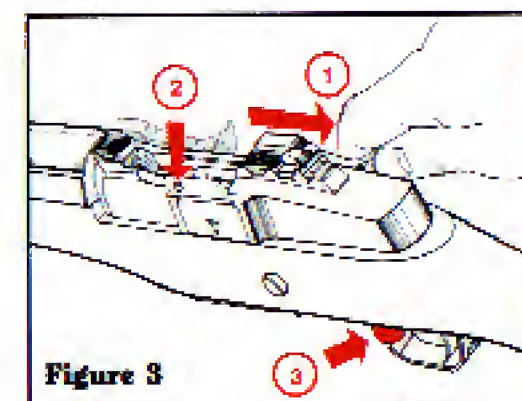

Figure 3
To manually engage the bolt lock to keep the bolt open: (See Figure 3)
2. Before inserting loaded magazine, engage the bolt lock so the bolt is held open. Check the chamber to be certain it is empty. MOVE THE SAFETY TO THE "ON" POSITION. (See Figure 3, p. 5).